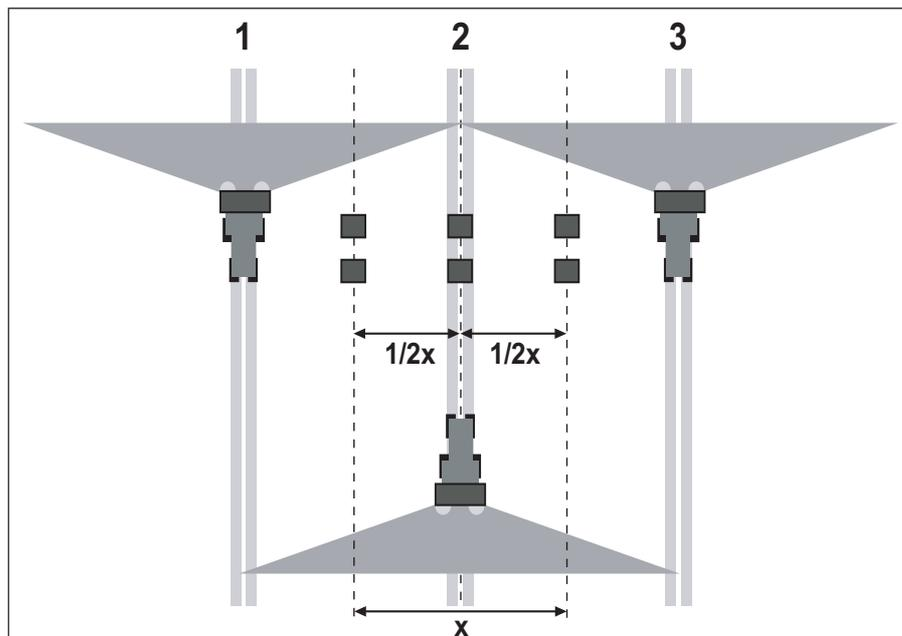

Figure 8.14: Layout for three passages
- Place two collecting vessels each, one after another, at a distance of **1 m** in the overlap zones and in the centre track (according to figure 8.14).